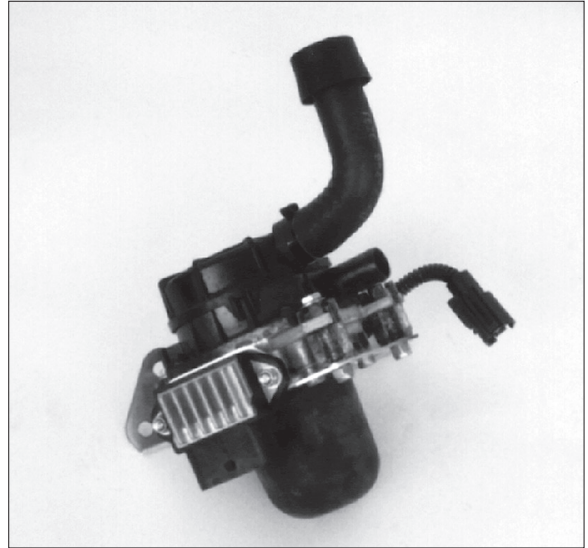

Fig. 9-a
- B. Remove the air pump and module from the bracket. Remount both pieces onto the supplied mounting bracket with the 10-24 and 1/4-20 hardware provided (see Fig. 9-a).